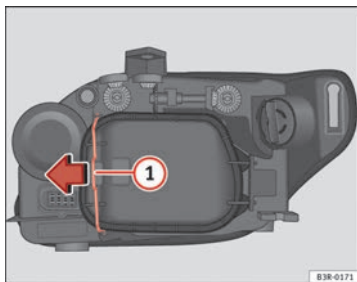

Fig. 215 Side light bulb (inside of vehicle)
- Move the brace ⇒ Fig. 215 ① in the direction of the arrow and remove the rigid cover, separating the brace side and then removing the two tabs from the other end of the cover.